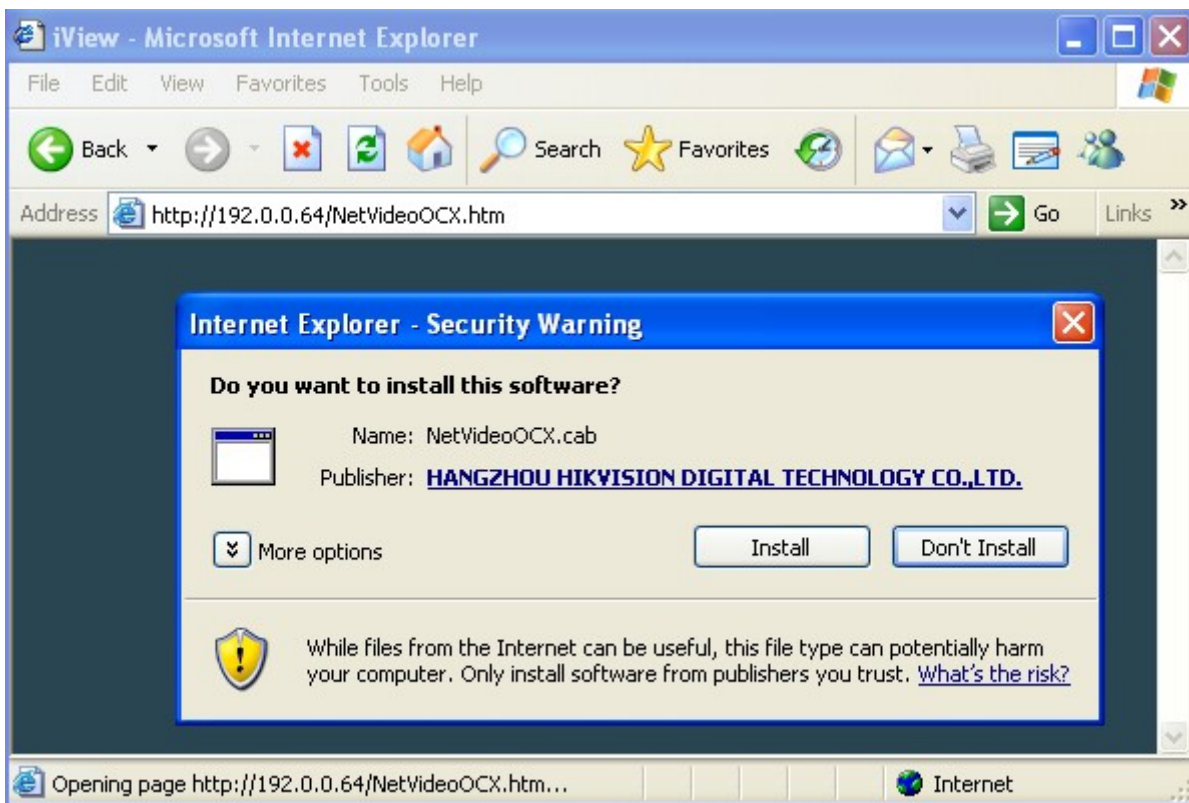

Figure 4.1.1
The system will display the warning message as shown in Figure 4.1.1.
**Note:** If the ActiveX control installation is blocked by the related software in PC, the following warning message will appear, as show in Figure 4.1.1. Click *Yes* to install the ActiveX control.